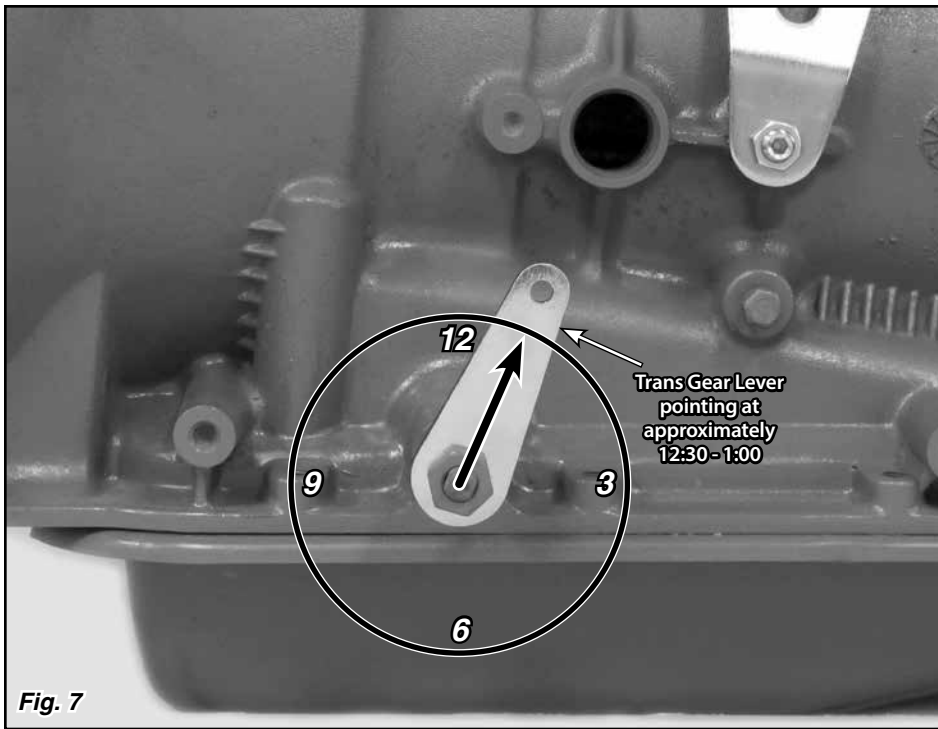

Fig. 7
Step 12: Remove the rod end from the new trans gear lever. Install the trans gear lever onto the transmission and secure with your original nut. Place the trans gear lever in the Park position with the top of the lever pointing up and slightly towards the rear of the transmission, at about the 12:30 - 1:00 position. **Fig. 7**